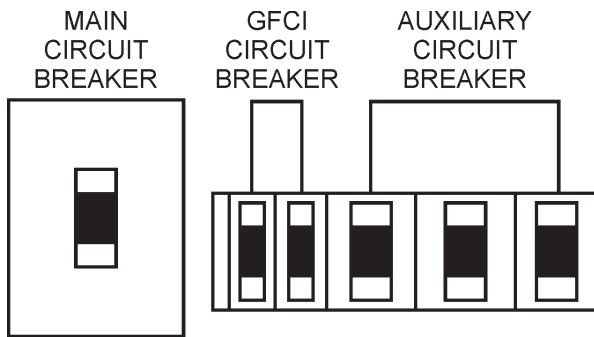

Figure 38. Main, Aux. and GFCI Circuit Breakers (OFF)
1. Place the **main, G.F.C.I.,** and **aux.** circuit breakers (Figure 38) in the **OFF** position prior to starting the engine.
1. Place both the **MAIN, GFCI** and **LOAD** circuit breakers as shown in Figure 38 to the **OFF** position.
1. To shut-down the engine in the event of an emergency, switch the **MAIN, GFCI** and **LOAD** (Figure 38) circuit breakers to **OFF** position.